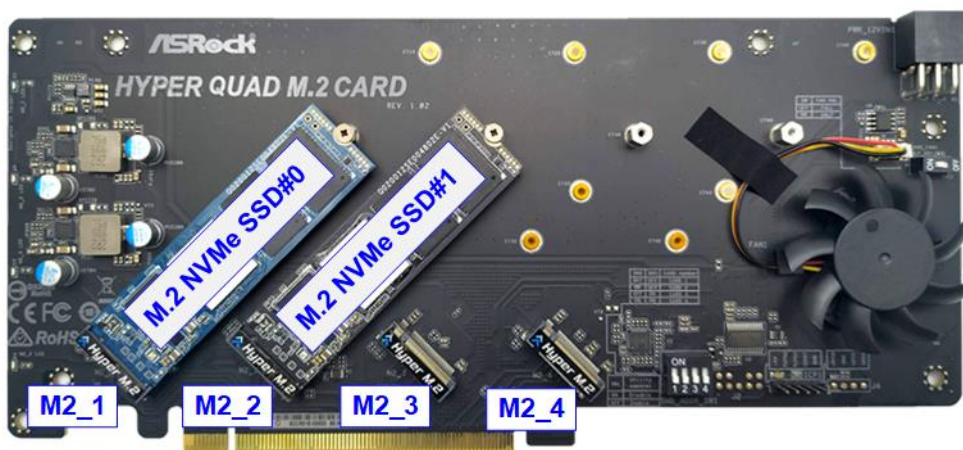

Figure 2-2 Two M.2 NVMe SSDs on Hyper Quad M.2 Card
- i. Insert two M.2 NVMe SSDs to M2_1 and M2_2 connectors on Hyper Quad M.2 card, as shown in Figure 2-2.